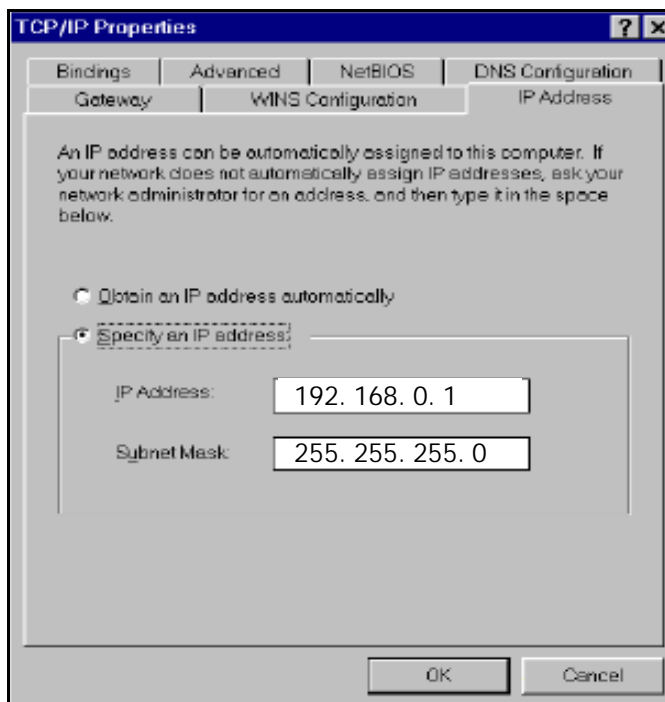

Figure 8-4 TCP/IP Window
- 5) Type new IP address 192.168.0.1 as shown in Figure 8-4, then click on *OK* button.